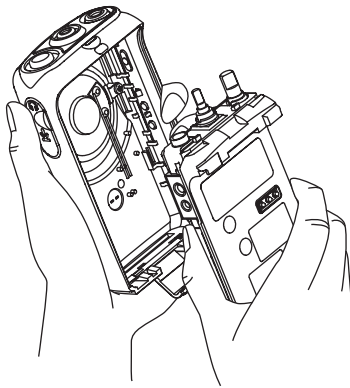

Figure 2-13
10. Place the diecast into the front housing (see "Figure 2-13").